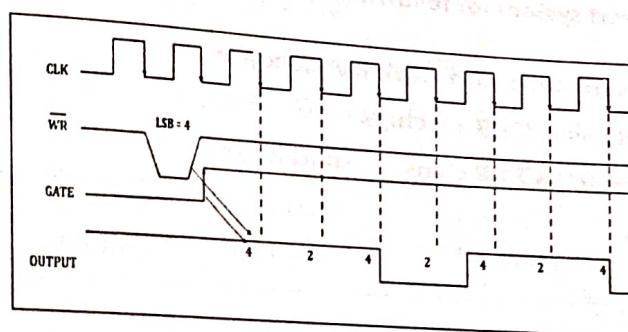

Figure 4.9: Mode 3 Timing Diagram.
- Figure 4.9 shows the Mode 3 Timing Diagram.